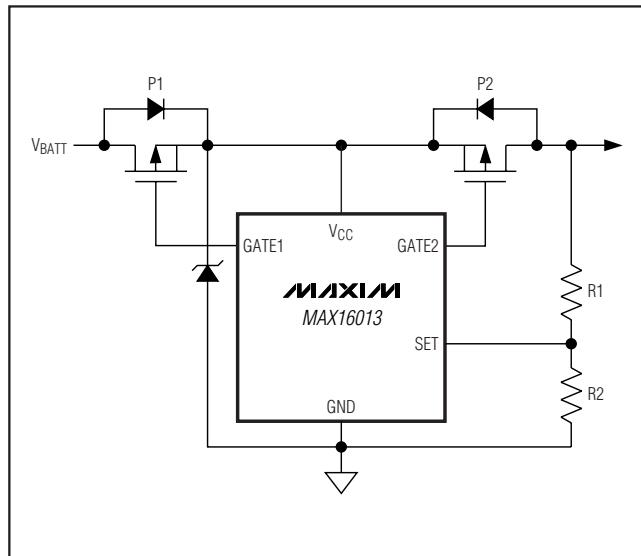

Figure 3. Overvoltage Limiter Protection
The MAX16013/MAX16014 can be configured as an overvoltage switch controller to turn on/off a load (see the *Typical Application Circuit*). When the programmed overvoltage threshold is tripped, the internal fast comparator turns off the external p-channel MOSFET (P2), pulling GATE2 to V_{CC} to disconnect the power source from the load. When the monitored voltage goes below the adjusted overvoltage threshold, the MAX16013 enhances GATE2, reconnecting the load to the power source (toggle ENABLE on the MAX16014 to reconnect the load). The MAX16013 can be configured as an overvoltage limiter switch by connecting the resistive divider to the load instead of V_{CC} (Figure 3). See the *Overvoltage Limiter* section.
- Add a zener diode or transient voltage suppresser (TVS) rated below V_{CC} absolute maximum rating (Figure 3).
Most battery-powered applications must include reverse voltage protection. Many times this is implemented with a diode in series with the battery. The disadvantage in using a diode is the forward voltage drop of the diode, which reduces the operating voltage available to downstream circuits (V_{LOAD} = V_{BATTERY} - V_{DIODE}). The MAX16013 and MAX16014 include high-voltage GATE1 drive circuitry allowing users to replace the high-voltage-drop series diode with a low-voltage-drop MOSFET device (as shown in the *Typical Operating Circuit* and Figure 3). The forward voltage drop is reduced to I_{LOAD} x R_{DS-ON} of P1. With a suitably chosen MOSFET, the voltage drop can be reduced to millivolts.